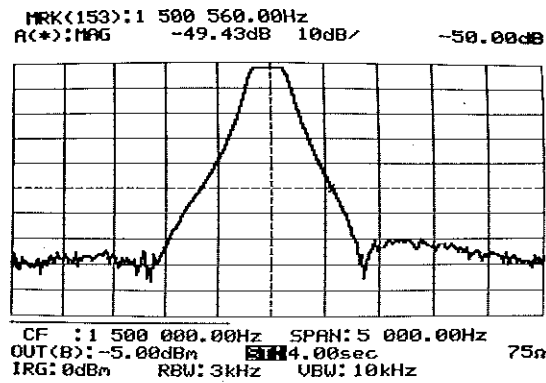

Fig. 3-5 ST Adjustment (B)
- If the setting time of the device under test is greater than ST, it is necessary to further increase ST to a point where the trace on the CRT does not change (Fig. 3.5).*